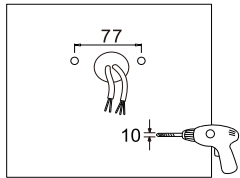

Figure 21
Step 1: Drill holes on the wall as shown. (Figure 21)